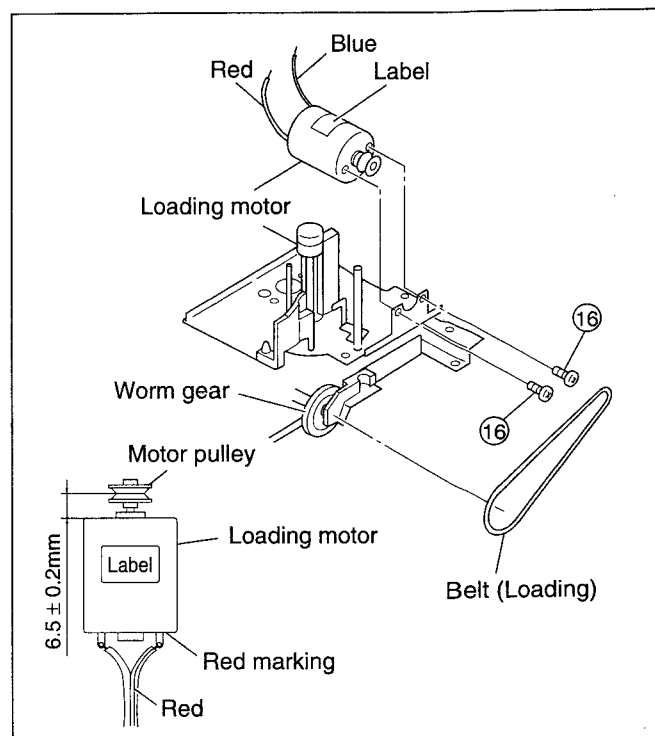

Fig. 2-3-22
② How to reassemble
- (1) Mount the loading motor and motor pulley as shown in Fig. 2-3-22.
- (2) Reassemble in the reverse order of removing.